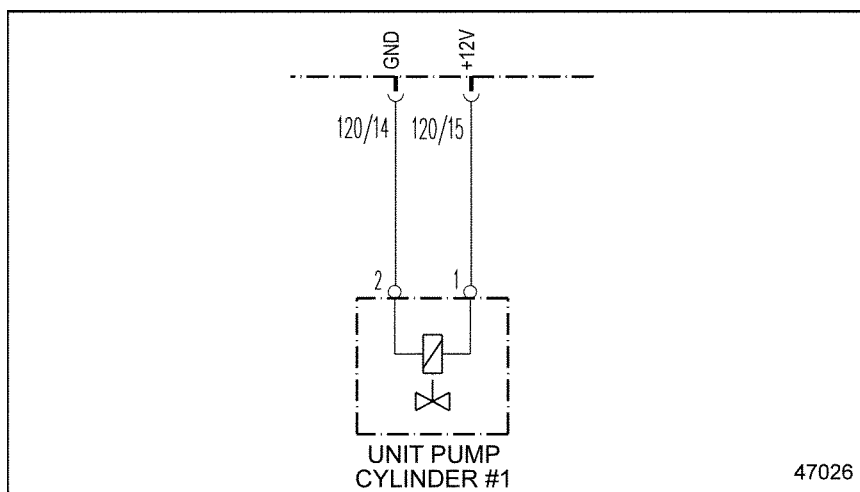

Figure 44-2 Electronic Unit Pump #1
4. Measure the resistance between pins 1 and 2 of the Electronic Unit Pump #1 harness. See Figure 44-2.